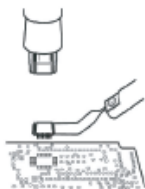

Fig. 5
4. When the soldering tin is melted, remove the SMD components by lifting the pick up puller (Fig. 5)